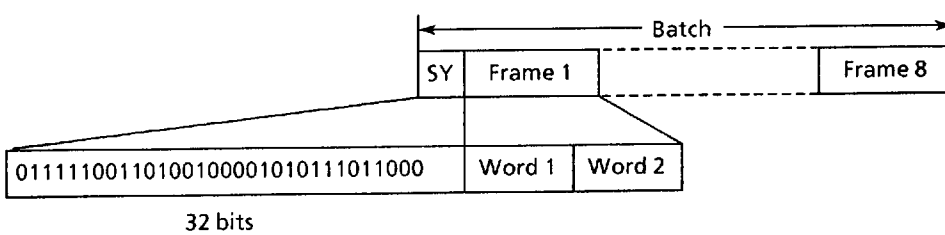

Figure 7 Batch configuration
Synchronization codeword (SY): 32-bit signal shown in Figure 7. When the SY is received after a preamble, it is considered a POCSAG code.
The operation which detects the initial SY following a preamble is called the initial SY detection mode. The S-7037AF compares the sent data with the SY data set in the S-7037AF (see Figure 7). After receiving one bit of data, the S-7037AF compares the 32-bit data, including that bit and those before it, with the SY. If 30 or more bits match, the SY is considered to be detected. Even if radio wave are affected by noise, SY is detected as long as there are no more than two faulty bits.